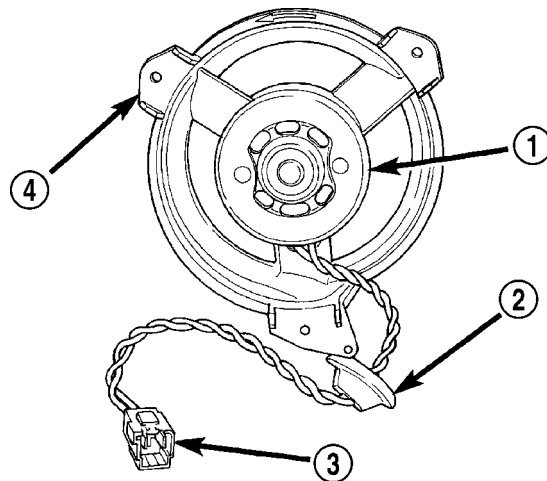

Fig. 8 Blower Motor Mounting Tabs
(12) Gently flex the recirculation air door far down enough to remove the blower motor and wheel from the HVAC housing.
(13) Remove the blower motor and wheel from the HVAC housing. Note the position of the blower motor mounting tabs (Fig. 8).